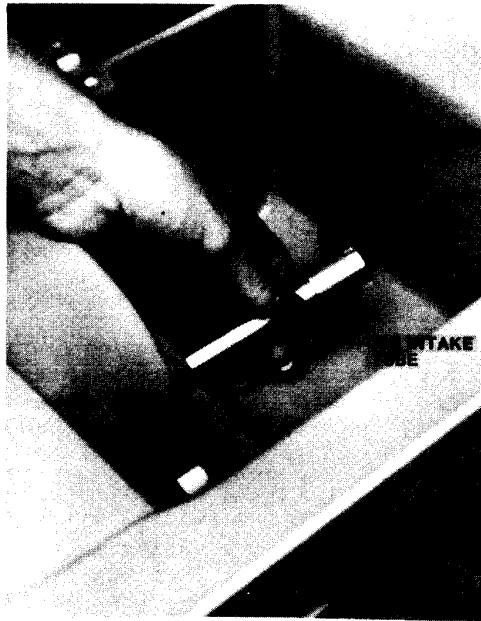

FIGURE 4.5 REMOVAL OF AIR INTAKE TUBE
6. REMOVE AIR INTAKE TUBE. Grasp the Air Intake Tube (Figure 4.5) twist and pull it toward the front of the Incubator until the end of the tube clears the gasket. Remove the tube from the base assembly.
1. INSTALL THE AIR INTAKE TUBE (into the Base Assembly) by reversing the procedures shown in Figure 4.5.